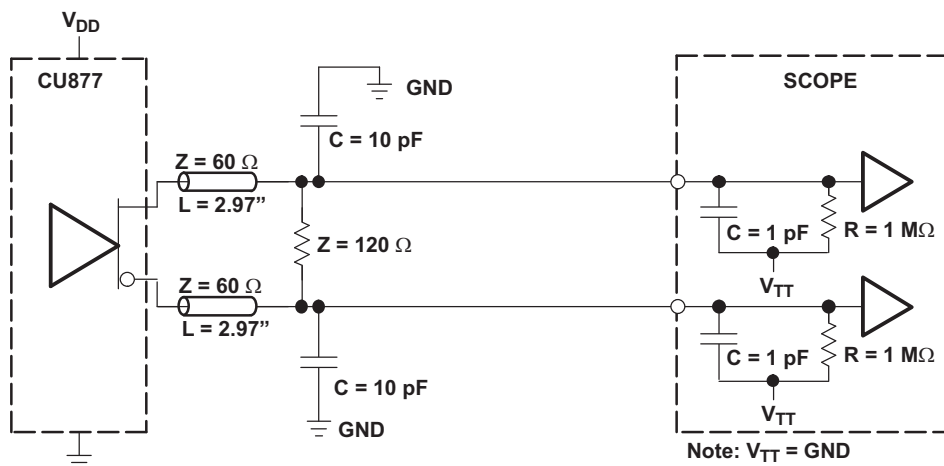
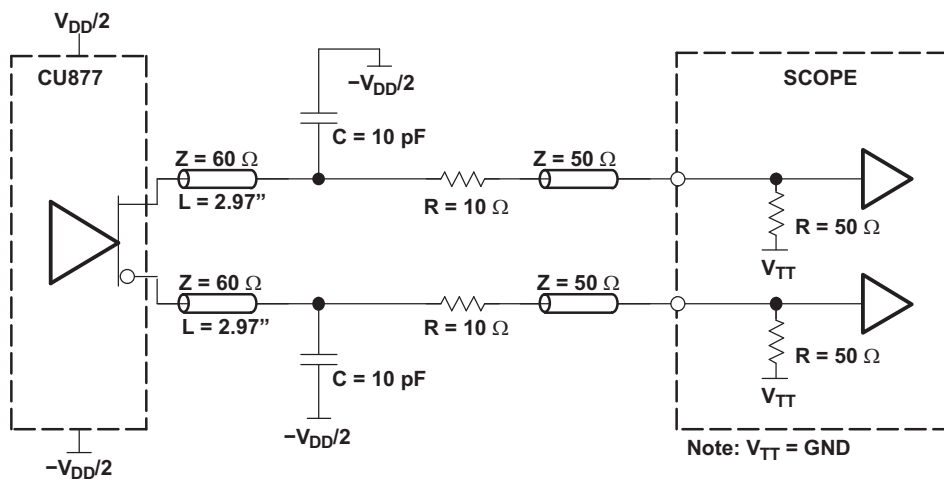

Figure 2. Output Load Test Circuit 1
Figure 3. Output Load Test Circuit 2
- (1) There are two different terminations that are used with the following tests. The load/board in Figure 2 is used to measure the input and output differential-pair cross voltage only. The load/board in Figure 3 is used to measure all other tests. For consistency, equal length cables must be used.
- (2) This parameter is specified by design and characterization.
- (3) Phase static offset time does not include jitter.
- (4) Period jitter, half-period jitter specifications are separate specifications that must be met independently of each other.
- (5) The output slew rate is determined from the IBIS model with a 120-Ω load only.
- (6) To eliminate the impact of input slew rates on static phase offset, the input skew rates of reference clock input CK and  $\overline{CK}$  and feedback clock inputs FBIN and  $\overline{FBIN}$  are recommended to be nearly equal. The 2.5-V/ns skew rates are shown as a recommended target. Compliance with these typical values is not mandatory if it can adequately shown that alternative characteristics meet the requirements of the registered DDR2 DIMM application.
- (7) Output differential-pair cross voltage specified at the DRAM clock input or the test load.
- (8)  $V_{OX}$  of CDCU877A is on average 30 mV lower than that of CDCU877 for the same application.